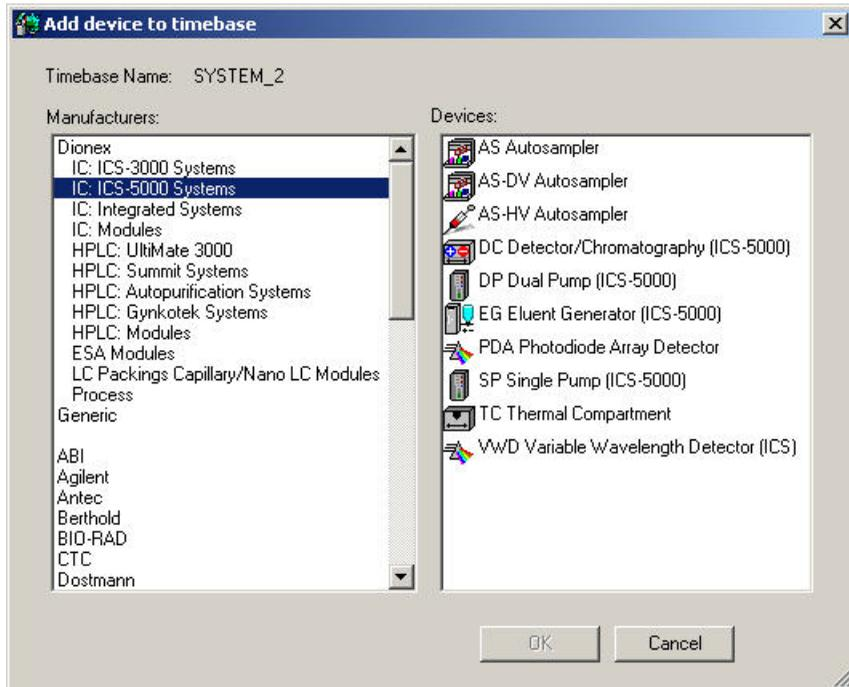

Figure B-15. Adding the Dionex VWD to a Timebase
- Under **Devices**, select **VWD Variable Wavelength Detector (ICS)** (see Figure B-15) and click **OK**.